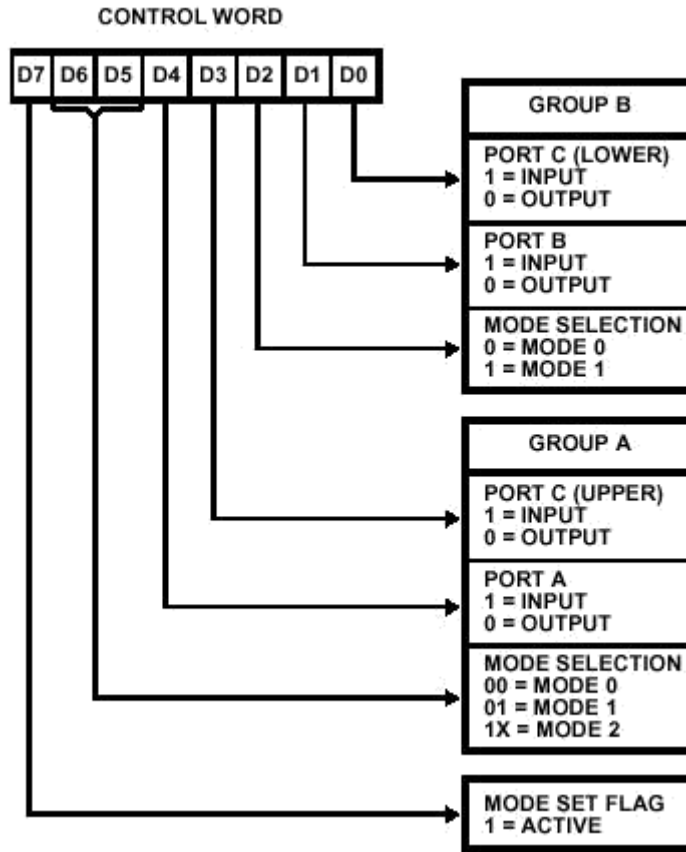

Fig 3. Control word Register format
The 8255A has 24 I/O pins that can be grouped primarily in two 8-bit parallel ports: A and B with the remaining eight bits as port C. The eight bits of port C can be used as individual bits or be grouped in to 4-bit ports: CUpper (Cu) and CLower (CL) as in Figure 2. The function of these ports is defined by writing a control word in the control register as shown in Figure 3